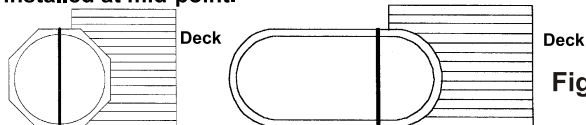

Fig. 2
- A. Determine the best location for the reel system. On round pools, the reel should be located across the center of the pool. On oval or rectangular pools, locate the reel at its widest point where there is no decking on either side (see Fig. 2 below).